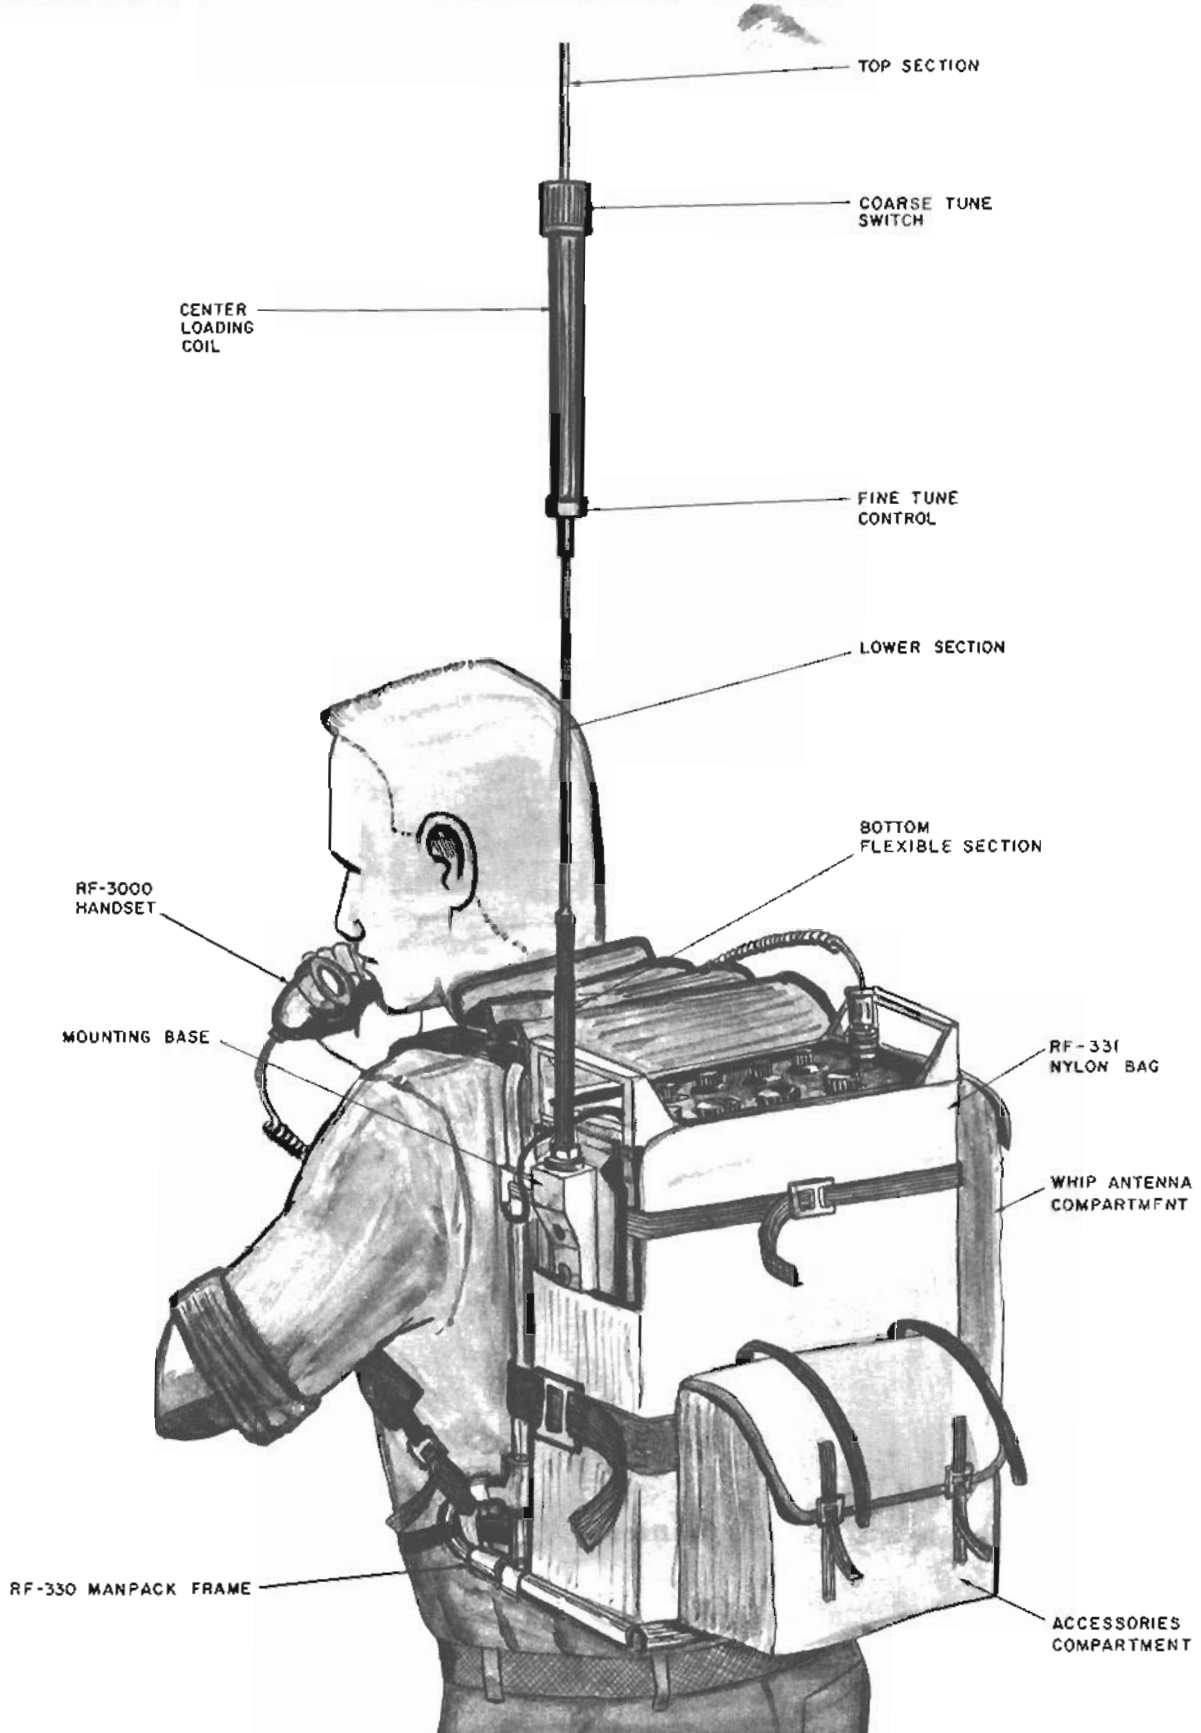

FIGURE 2.1 - TYPICAL MANPACK CONFIGURATION
refer to figure 2.1. For operating in a prone position the whip antenna is rotated until perpendicular to the terrain.
b. Open the top (transceiver compartment) flap on the nylon bag and insert the transceiver, with battery pack attached, into the bag, making sure that the antenna base is on the left hand side (side with opening for whip base), as shown in figure 2.1.
d. With the top transceiver compartment cover open, secure the top and bottom straps around the outside of the pack, as shown in figure 2.1.
e. To install the whip antenna, first screw the bottom flexible section into the mounting base receptacle, as shown in figure 2.1. Unfold the whip antenna section and assemble. Screw the assembled antenna onto the flexible section on the mounting base.